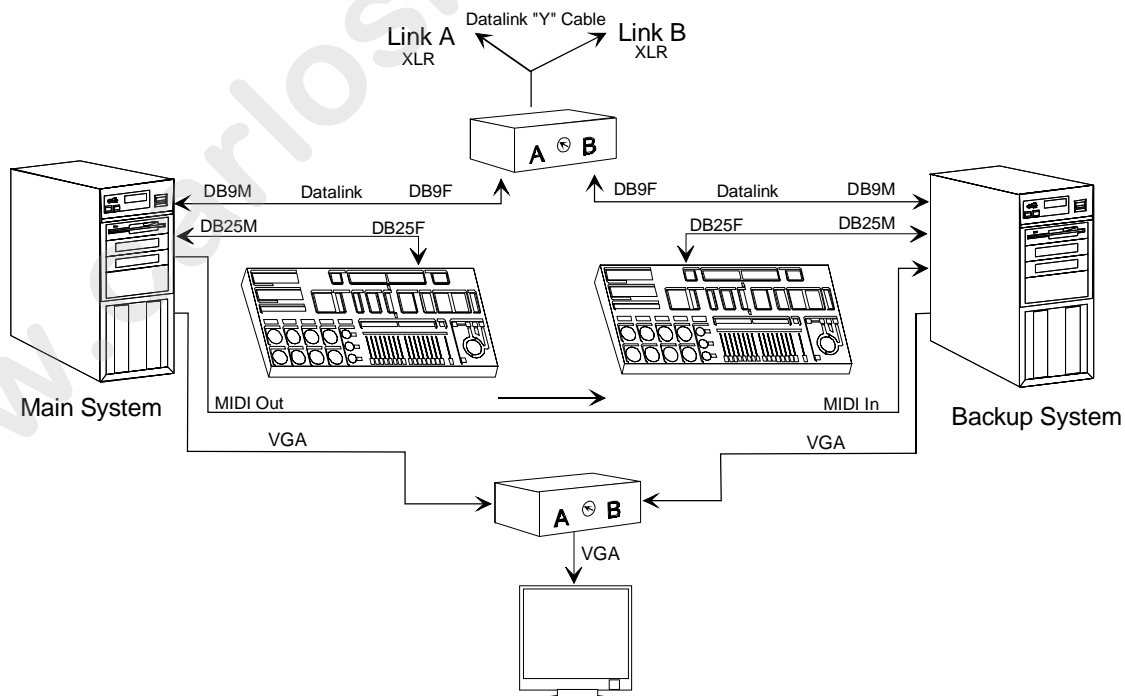

Figure B.4. Complete Redundant System
12. Open an identical copy of a show on the main and backup system. Figure B.4 shows the redundant system with a redundant monitor system (accomplished through an additional switchbox).
Note: *if the monitor is also on a switchbox (Figure B.4), change it from "A" to "B" to view the backup system.*